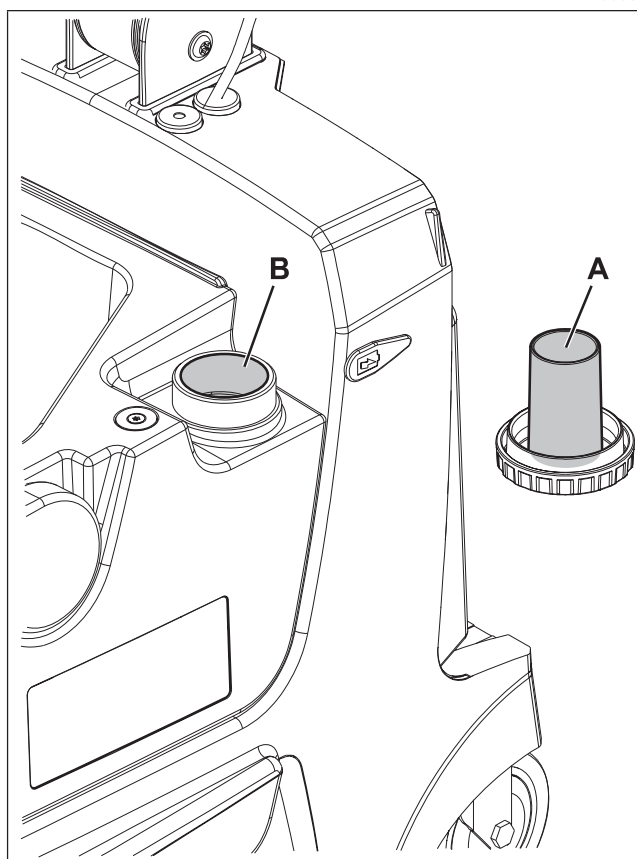

Figure 2
1. Remove the tank cover (12).
2. Remove the cap (A, Fig. 2) on the solution tank (B).
3. Fill the solution tank (B) with water, leaving a few centimetres from the top.